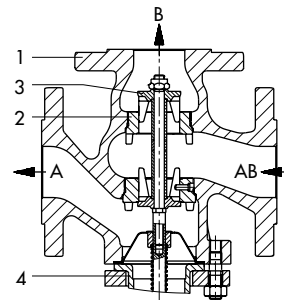

Fig. 4 · Three-way valve with plug arrangement II, arrows indicate flow-diverting service
In mixing valves in sizes DN 15 to DN 100 (acc. to Fig. 4 with plug arrangement I), the process media to be mixed flow through the valve ports A and B. The combined stream leaves at common port AB. The rate of flow from valve ports A or B to common valve port AB depends on the free area of flow between the seats (2) and the valve plugs (3), and in this way on the position of the plug stem (5). When the temperature rises, port A opens and port B closes.
Plug arrangement II (Fig. 4) is only used in DN 32 to DN 100 flow-diverting valves. In these valves, port A closes and port B opens when the temperature rises.